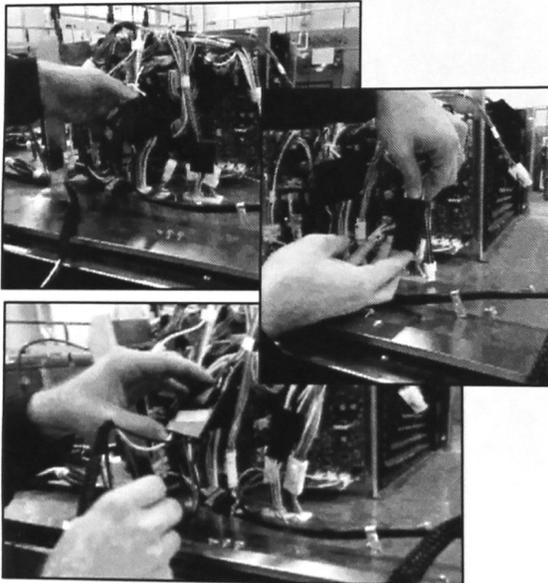

FIGURE 22
23. Connect all the HV box assembly connections from step 7 through step 10. See Figure 22.